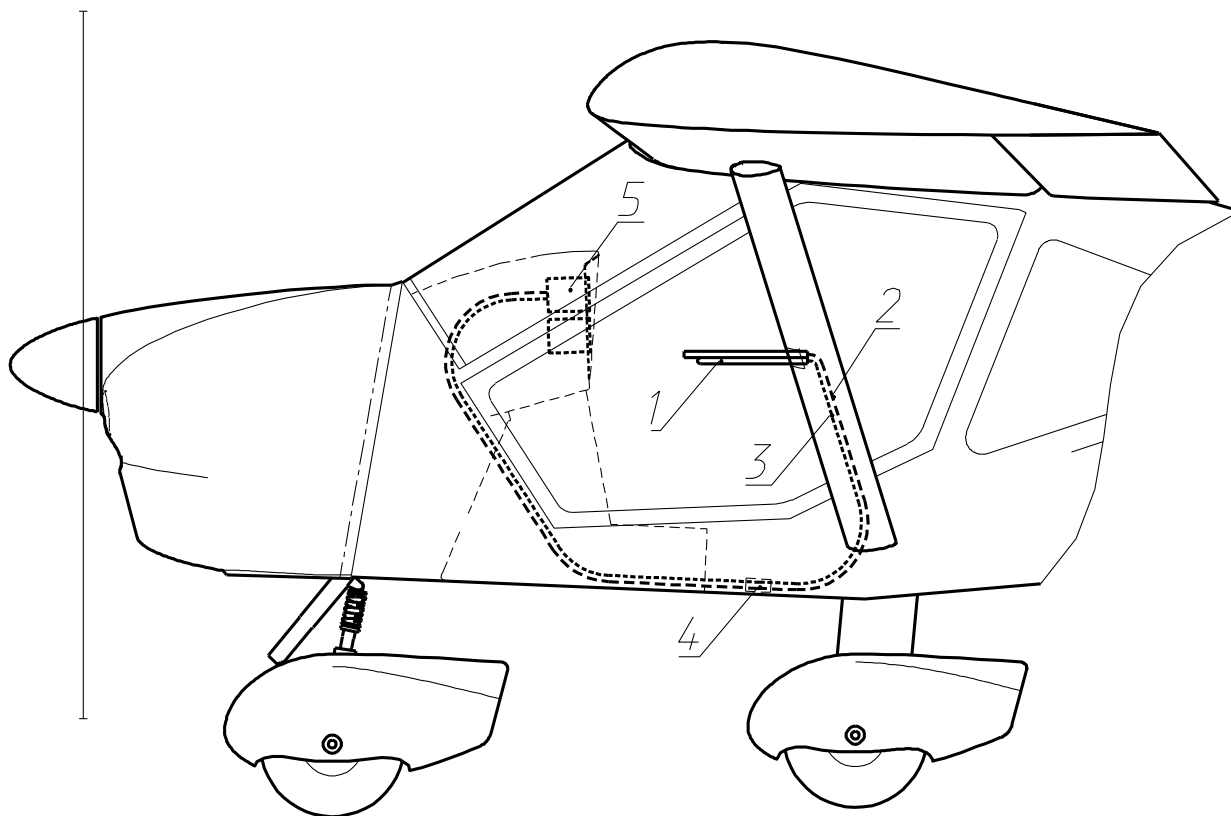

Fig. 12. Full and static pressure system
The full and static pressure probe (1) (see **Fig. 12**) is located on the left wing strut. It supplies the air pressure to the altimeter and the airspeed, vertical speed (if installed), angle of attack (if installed) indicators (6).